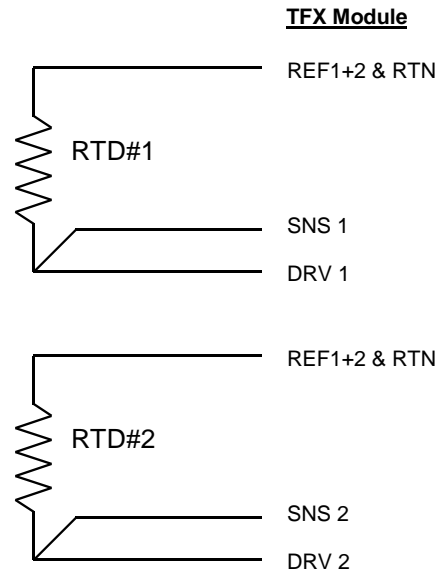

Figure 2
- Route a cable from the electrical junction box back to the TFX flowmeter. Connect the RTDs as illustrated in Figure 2. Note that the SNS1 and DRV1 wires originate from the same location on the RTD.